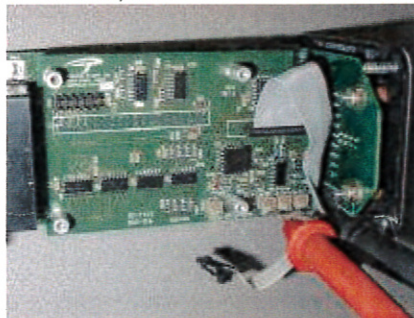

Figure 5 - Adjusting the R33 Variable Resistor
5. Adjusting **R33** for Aileron Full Left Roll indication. To adjust, set the Multimeter to read resistance, and place the probes on TP33 and TP GND as shown in **Figure 5**, and adjust the variable resistor.